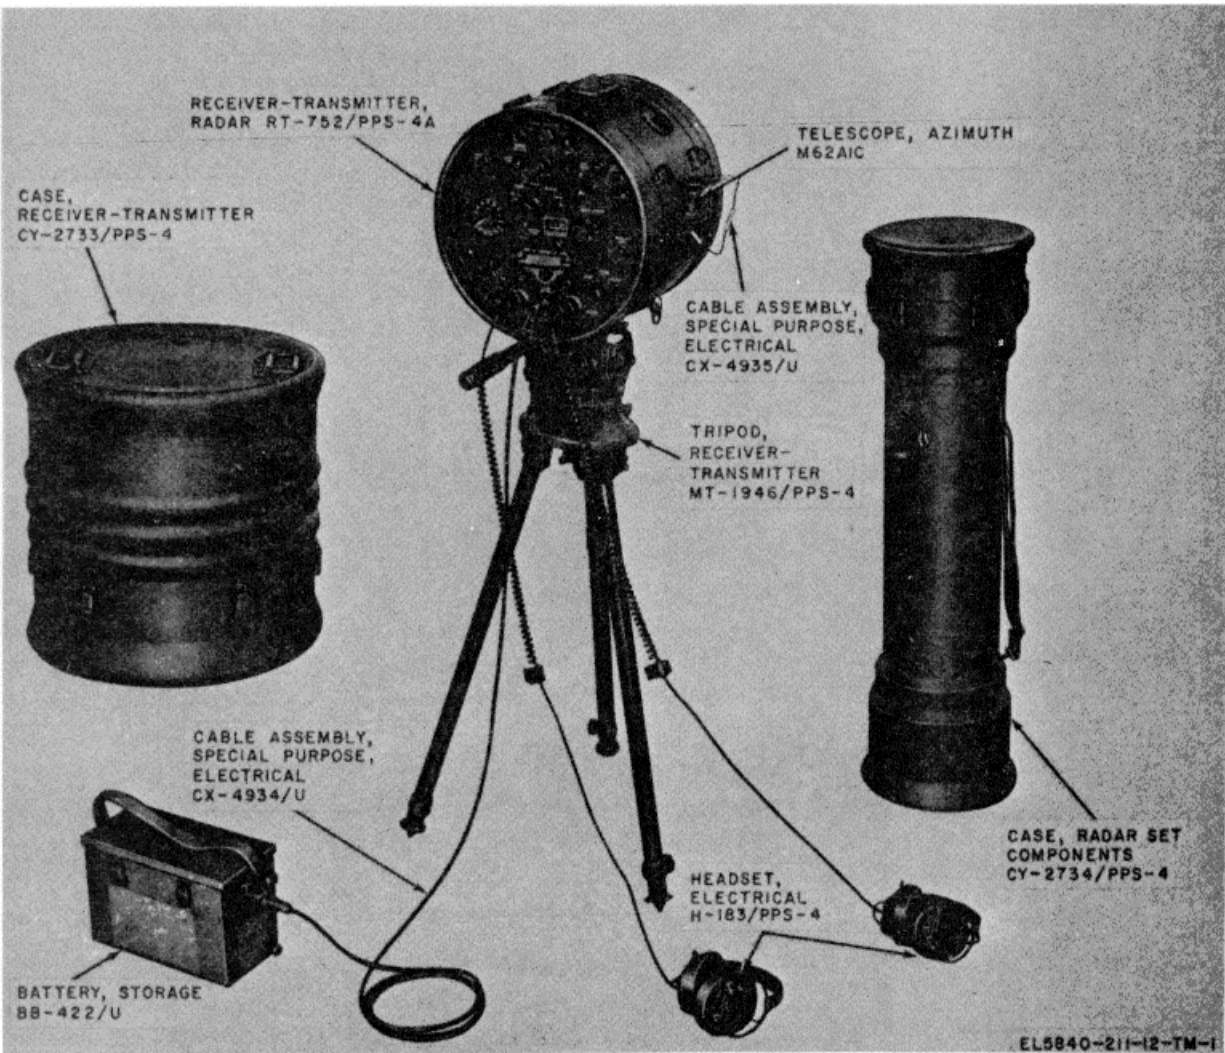

Figure 1-1. Radar Set AN/PPS-4A, components and auxiliary battery.
a. This manual describes Radar Set AN/PPS-4A (fig. 1-1) and covers its installation, operation, and operator's and organizational maintenance. It includes operation under usual and unusual conditions, cleaning and inspection of the equipment, and replacement of parts available for operator and organizational maintenance.
Radar Set AN/PPS-4A (fig. 1-1) is a lightweight, portable, transistorized radar set. The AN/PPS-4A is capable of searching for and detecting moving targets, such as personnel or vehicles, only in the presence of fixed targets. The AN/PPS-4A can also